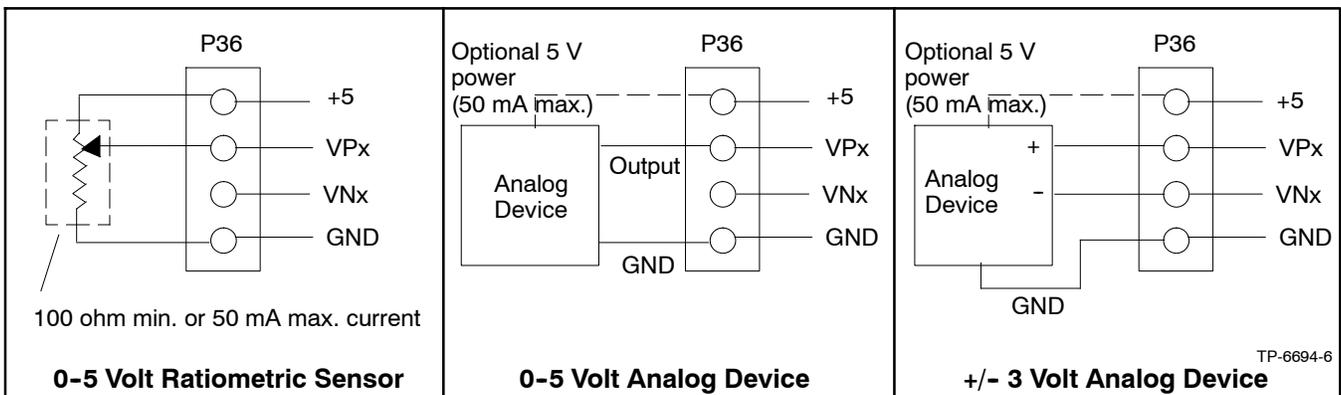

Figure 6-4 Analog Input Connections P36
5. See Figure 6-4 for connections of analog inputs.
6. Select the normally open (NO) contacts of the relay, form A dry contact, depending upon the application. Use a two-wire harness for the NO connections.